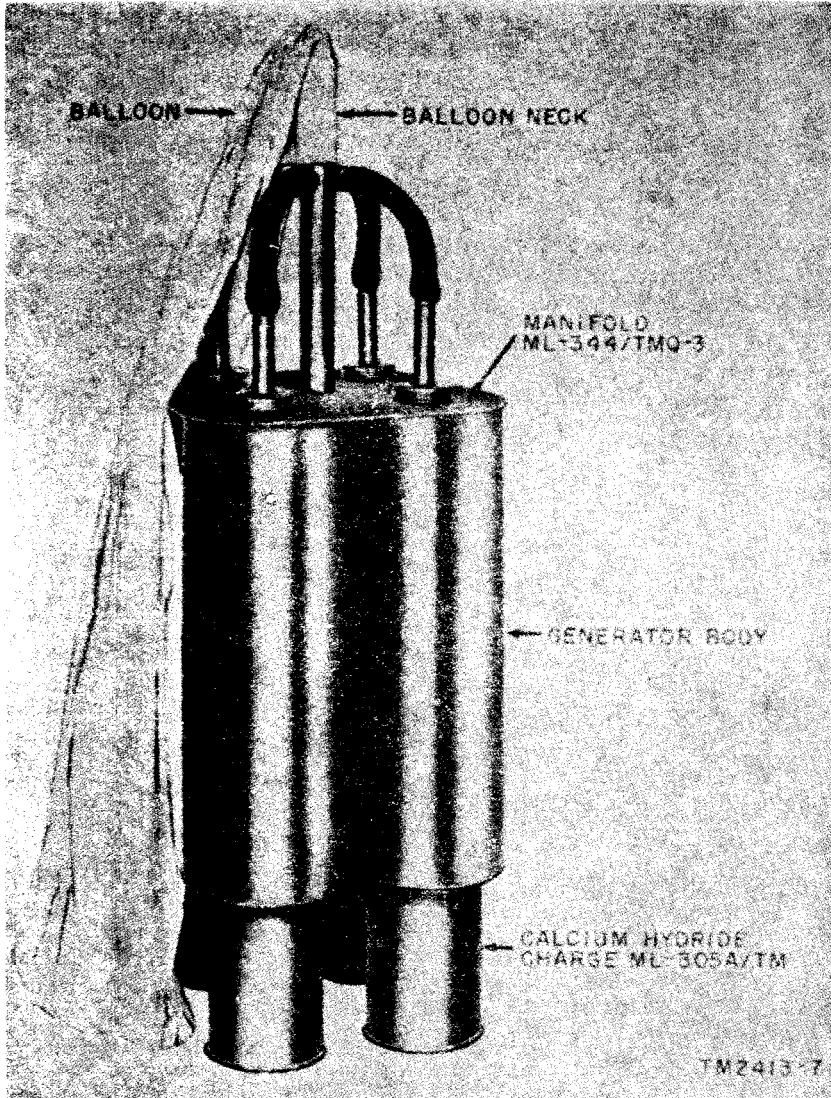

Figure 7. Hydrogen Generator Set AN/TMQ-3 prepared for use.
- (1) Obtain a container (par. 9c(2)).
- (2) Follow the procedure given in *a* (2) above.
- (3) Select the proper calcium hydride charges (par. 4) necessary to generate the number of cubic feet of hydrogen required. The amount of hydrogen required depends on the type and use of the balloon to be inflated as described in TM 11-2405.
- (4) Follow the procedure given in *a* (7) above for each calcium hydride charge being used.
- (5) Follow the procedure given in *a* (8) above for each generator being used.
- (6) Pull the neck of the balloon to be inflated over the outlet on Manifold ML-344/TMQ-3 (fig. 7). Tie the balloon securely on the outlet with twine if the neck fits loosely.